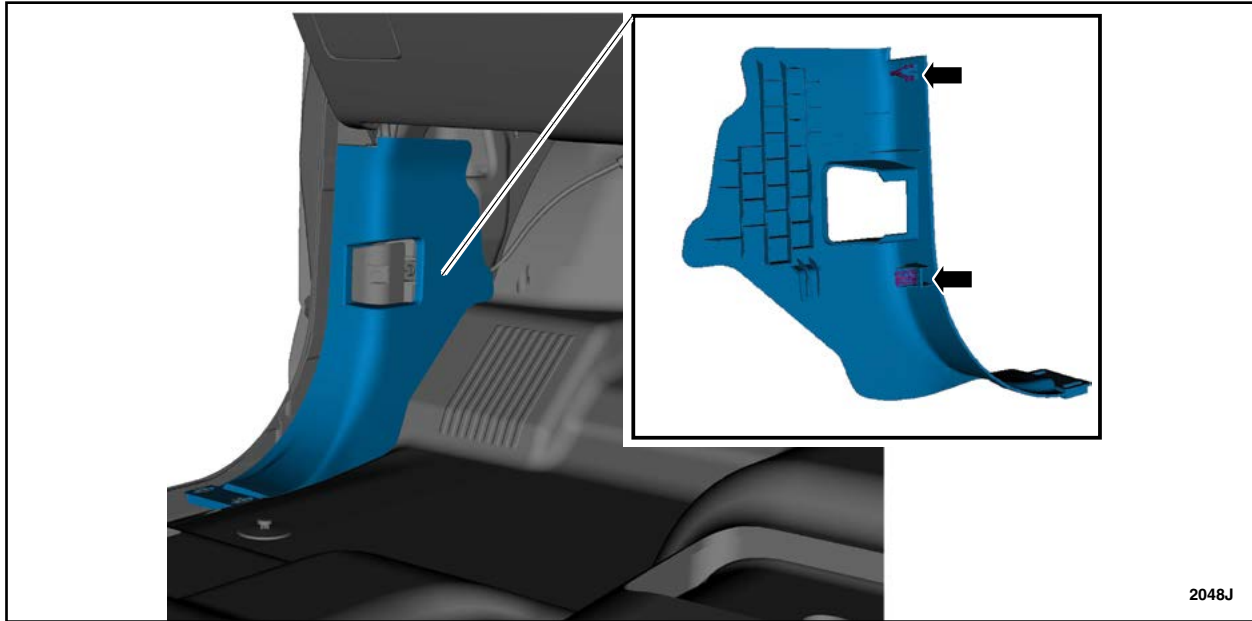

FIGURE 2
2. Remove the front LH cowl side trim panel. See Figure 2.
5. Position the carpet down and install the front LH cowl side trim panel. See Figure 2.